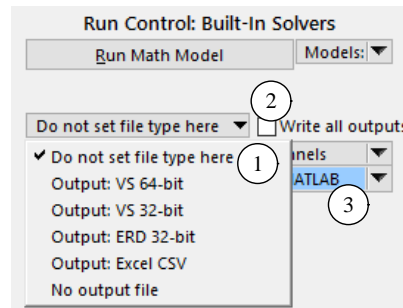

Figure 1. Checkbox “Write all outputs” on the Run Control screen.
A VS Math Model can be set to write time histories for all existing output variables to file. This option can be set for any simulation using a checkbox on the **Run Control** screen (2) (Figure 1). If the box is not checked, then output variables are written only if specified for plots or animations, or if added explicitly with a linked dataset (3) from the **I/O Channels: Write** library.
The type of file can be set on the **Run Control** screen with a drop-down list control (1) (Figure 1). More commonly, it is set with similar controls from the most recently viewed **Preferences** dataset, which is used as the default for all simulations in the current database.